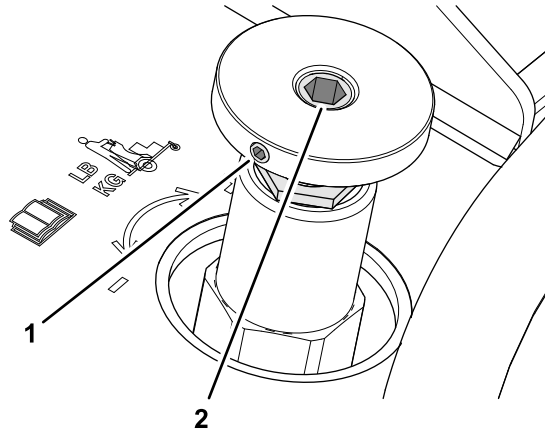

Figure 60
1. Loosen the setscrew in the knob for the weight control valve; refer to Figure 60 in Adjusting the Operator Weight Control Valve (page 47).
**Note:** Do not twist the knob while removing it. If you need help maintaining the position of the control-valve shaft, use a hex key in the hex socket of the shaft to hold the align; refer to Figure 60 in Adjusting the Operator Weight Control Valve (page 47).